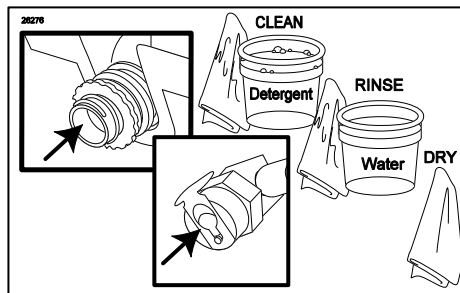

Figure 47
- Clean the exposed surfaces of the Syrup Bag Connector and bag fitment with detergent water, single service towel and brush if necessary. Then rinse and dry the Connector and fitment using clean water and single service towels. (See Figure 47.)